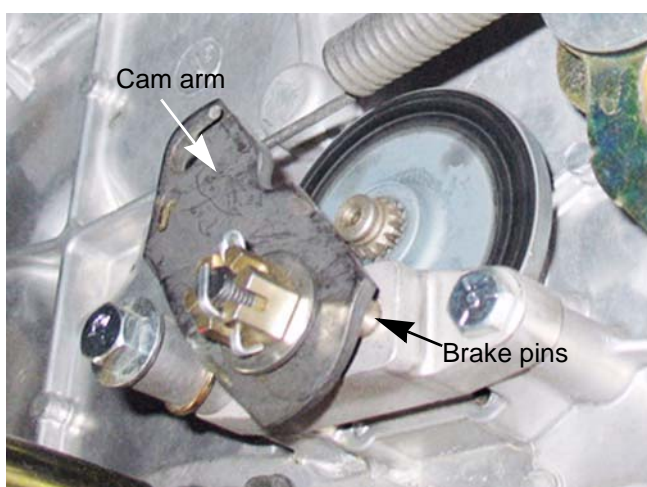

Figure 3.1
- When the cam arms are pulled forward, they push on the brake pins with a cam action applying pressure to the brake pads. See Figure 3.1.